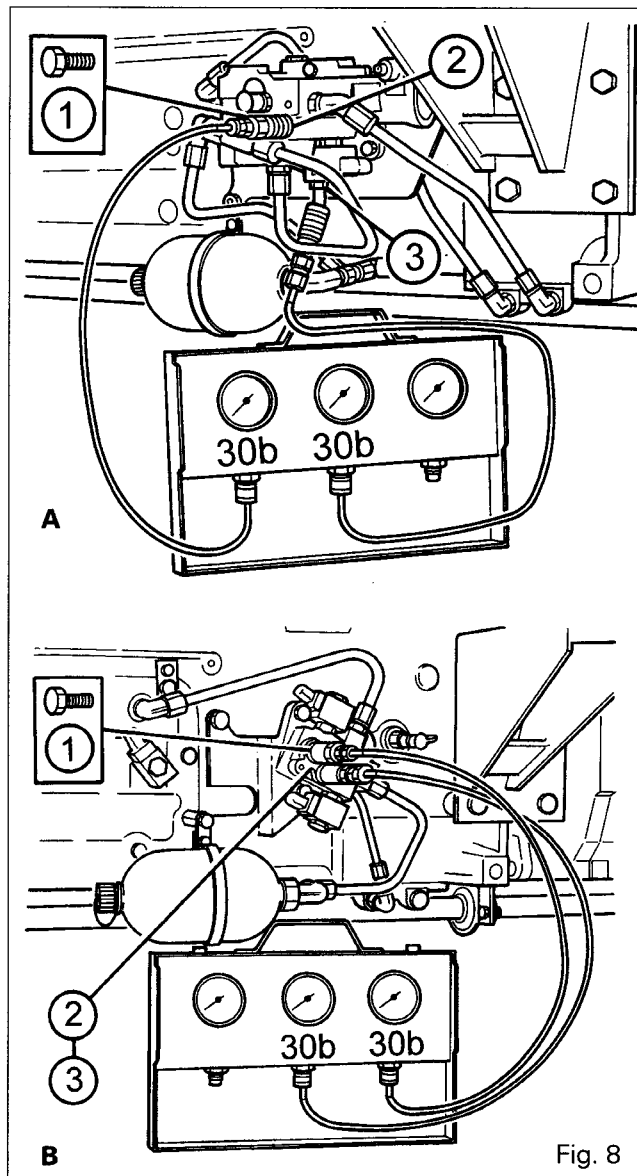

Fig. 8
Two test couplers may be fitted to check the pressure in the piston chambers (Fig. 8).
**Hydraulics - Dynashift control****B . Piston pressure check (Fig. 8)**
1. Remove plugs (1) from the distribution unit.
2. Screw on two male couplers (2) and (3), ref. 3384387 M1, and connect them to couplers ref. 3582045 M1, connected to pressure gauges with a capacity of 30 bar approx.